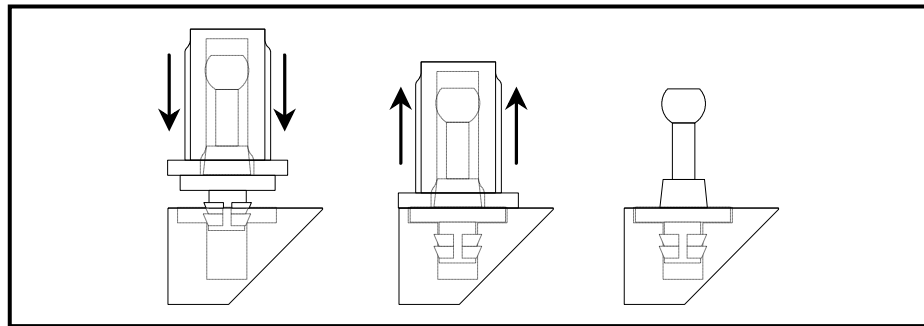

Figure 2.6 - Installing grille pin into ISIS grille frame. Note that after installation, the grille pin flange is flush with the surface of the grille.
- Place the exposed end of the grille pin in the open mounting hole. Check to insure that the grille cloth is not trapped between the pin and frame. Use a small hammer and gently tap the new grille pin in place. Then, pull the insertion tool off the new pin and verify that the pin flange is flush with the surface of the grille. Please refer to Figure 2.6.